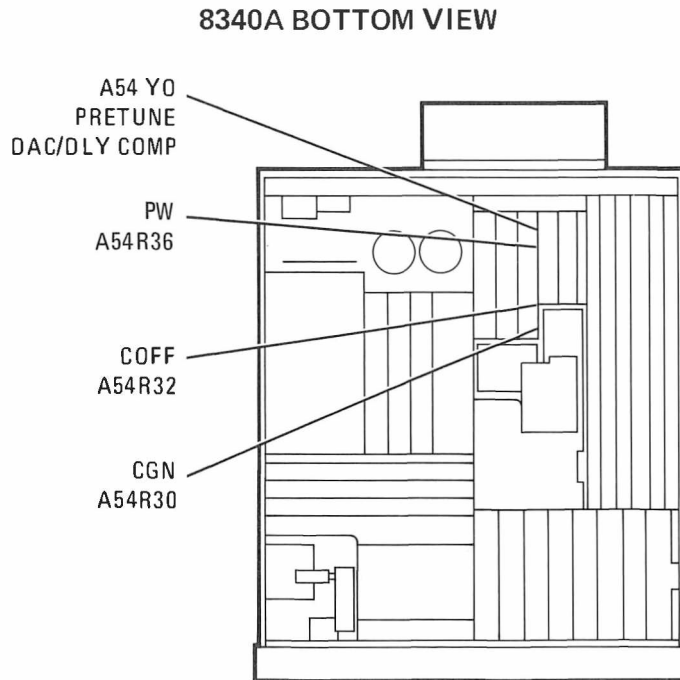

Figure 5-25. YO Delay Compensation Adjustments Location
3. Adjust A54R36 PW control (Figure 5-25) for a 12.5 msec pulse on the oscilloscope.